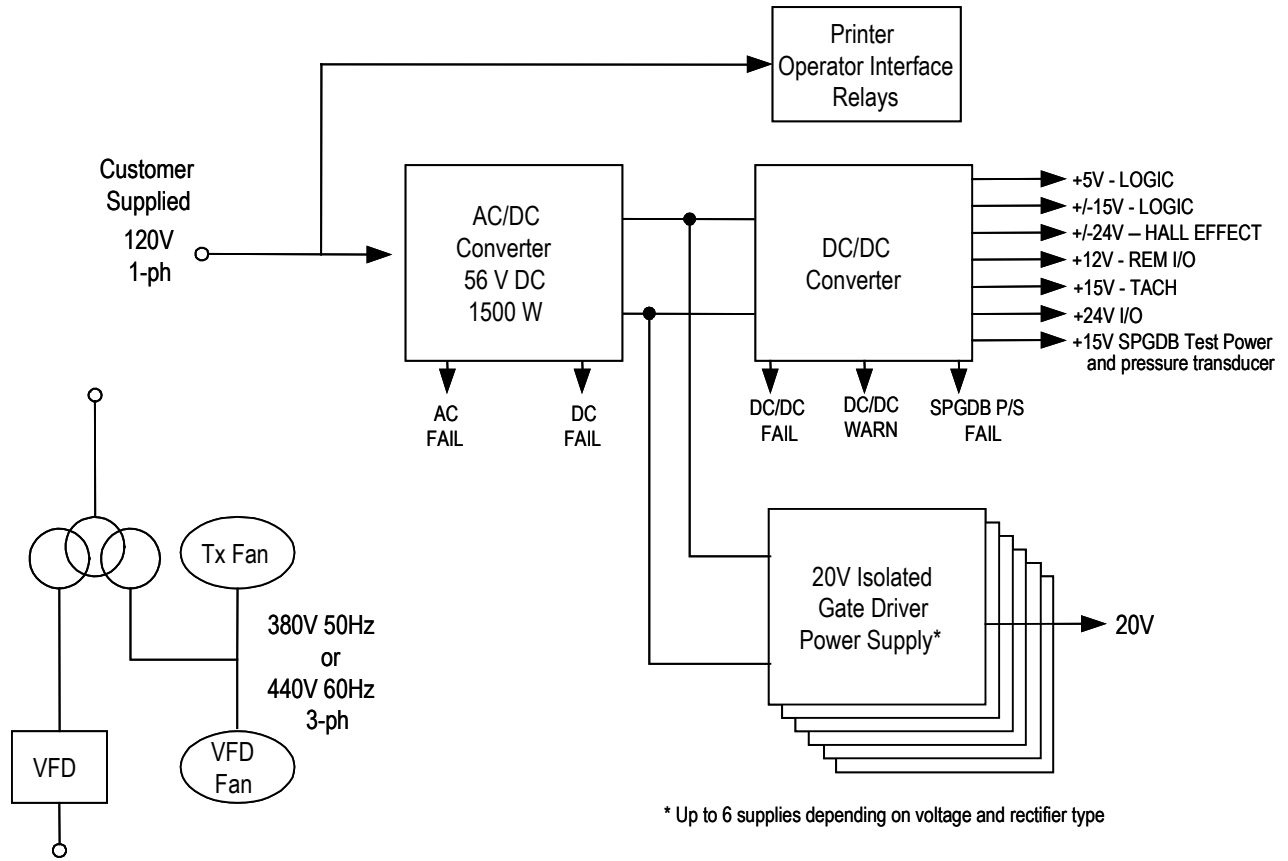

Figure 6.56 – 6-pulse/PWM Integral Transformer Drives
4. Integrated Transformer Drive (refer to Figure 6.56)
Figure 6.56 illustrates the control power distribution for 6-pulse and PWM drives with integral transformer and remote starter.